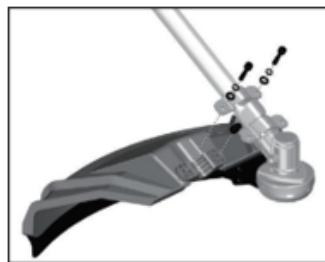

Fig.3-1
1. Place the guard on the accessory. (fig. 3-1)